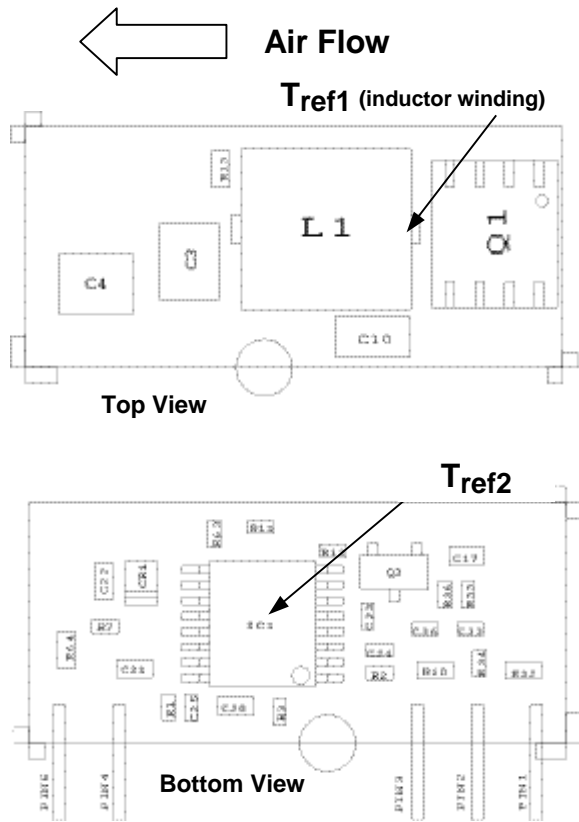
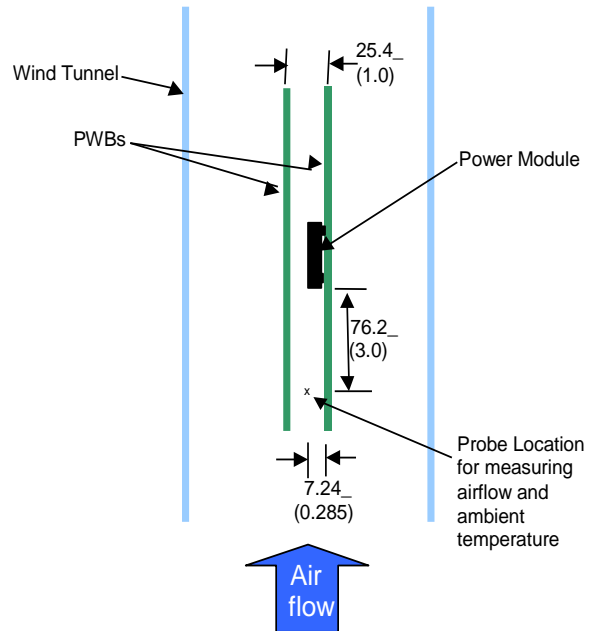

Figure 32. Tref Temperature measurement location.
Figure 33. Thermal Test Set-up.
Considerations include ambient temperature, airflow, module power dissipation, and the need for increased reliability. A reduction in the operating temperature of the module will result in an increase in reliability. The thermal data presented here is based on physical measurements taken in a wind tunnel. The test set-up is shown in Figure 33. Note that the airflow is parallel to the long axis of the module as shown in figure 32. The derating data applies to airflow in either direction of the module’s long axis.
The thermal reference point, T_{ref1} used in the specifications of thermal derating curves is shown in Figure 32. For reliable operation this temperature should not exceed 125°C. The output power of the module should not exceed the rated power of the module ($V_{o,set} \times I_{o,max}$).